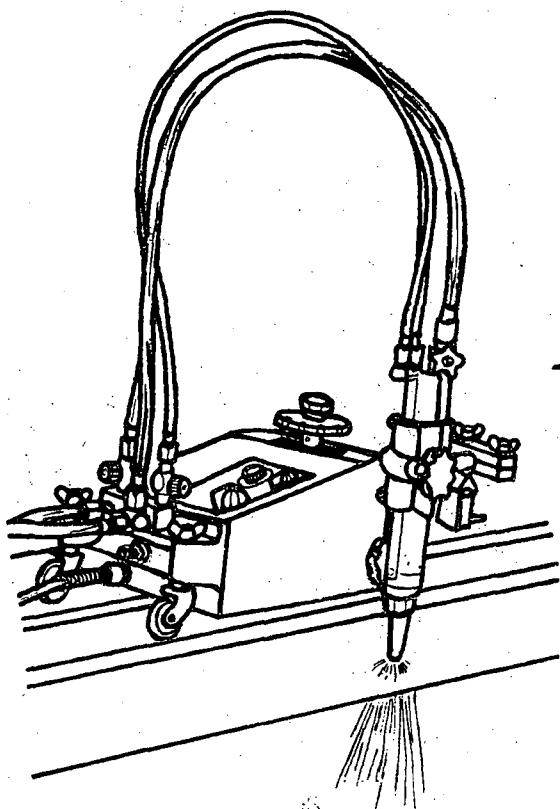

Fig. 10
- 2) The oxycut can be mechanised; for this, semi-automatic cutting machines are used (figs. 10 and 11).